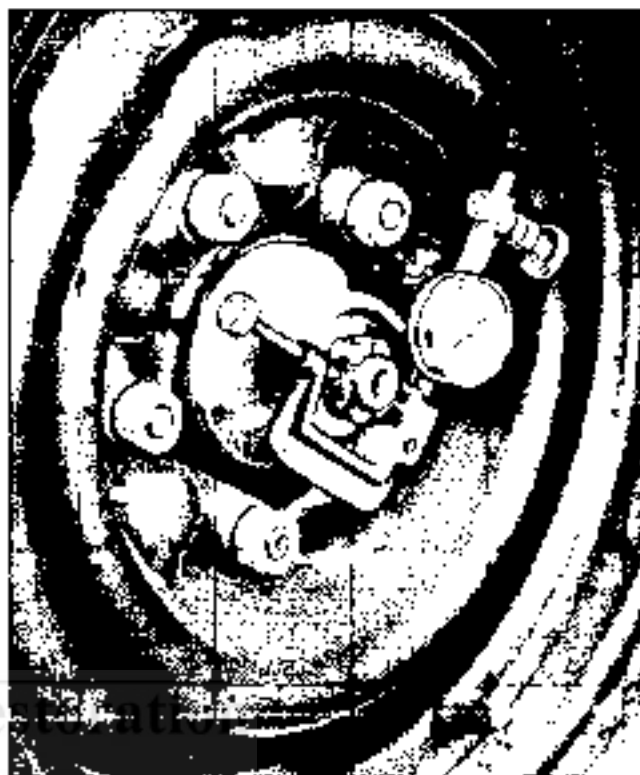

Fig. 3-2 Checking Front Wheel Bearing Adjustment
*NOTE: To check for loose bearings, mount a dial indicator to the adjusting nut (Fig. 3-2) with the indicator tail on a smooth portion of the wheel hub. Grip the tire at the top and bottom and move the wheel assembly in and out on the spindle. Movement greater than .001" indicates a loose bearing. If necessary, to inspect bearings, see *Other Repairs - Wheel Bearing Remove and Replace*.*